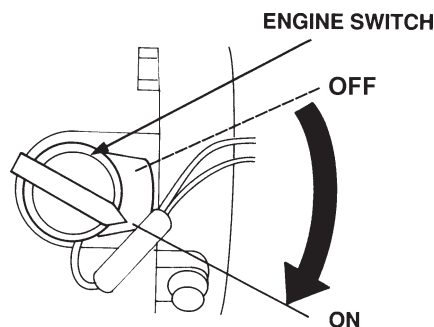

Figure 13. Engine ON/OFF Switch
4. Turn the engine switch (Figure 13) to the **ON** position.